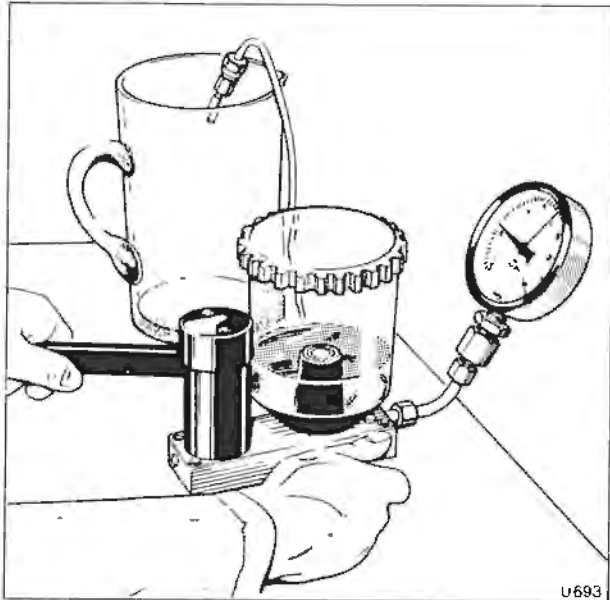

Fig. B2-34 Testing an injector
2. Connect the injector to the test equipment RH 9614 (Bosch Number KDJE 7452), see figure B2-34.